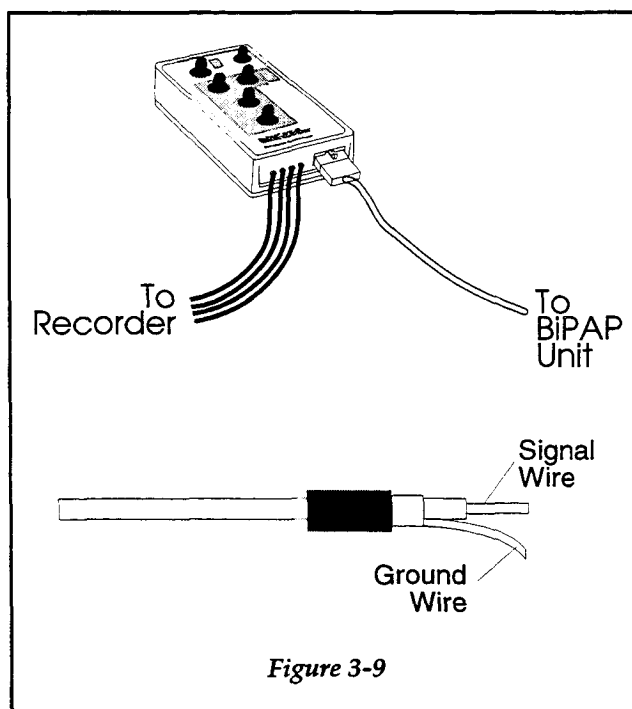

Figure 3-9
- Step 3 To obtain output signals to a recorder, connect the DCP/recorder cables to the output jacks on the DCP as shown in Figure 3-9. Connect the other ends of the cables to the recorder according to recorder manufacturer's instructions.
- Step 4 If a pressure (P) output signal is desired, connect a length of smooth inner lumen manometer tubing, equal in length to the patient circuit tubing, to the port provided on the patient mask. Attach the other end of the tubing to the pressure port on the front of the BiPAP unit.